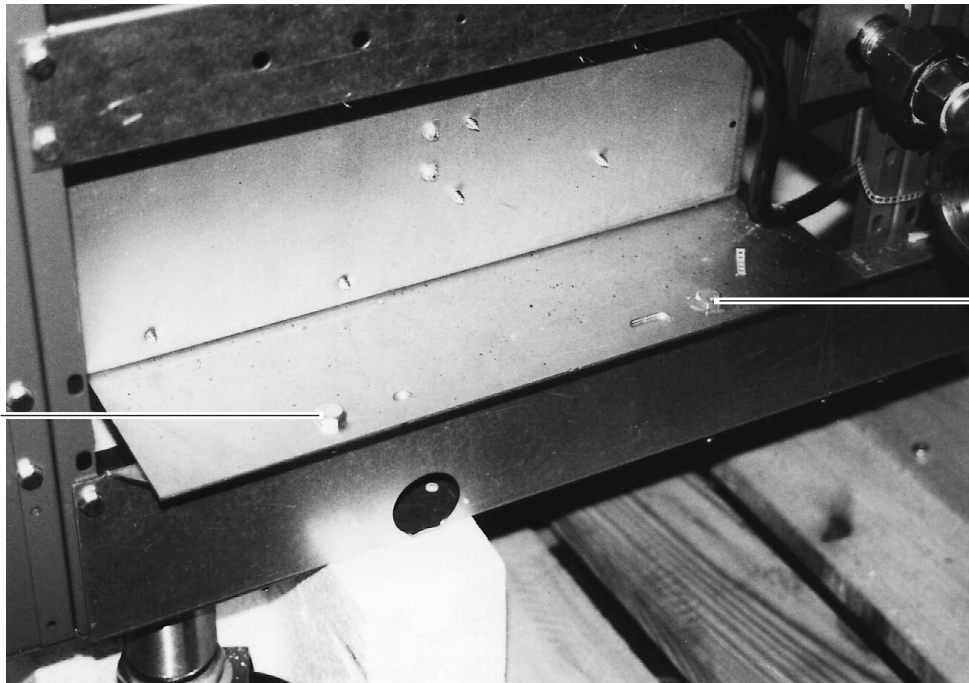

Fig. 48
4. From rear of unit with 7/16" socket and wrench remove the (2) nuts and bolts holding the supply box to the unit base frame. (Fig. 48) Note: In the GR25 fryer, the supply box is mounted vertically in the right rear corner of the appliance. To lower the box remove the holding screw on the bracket.